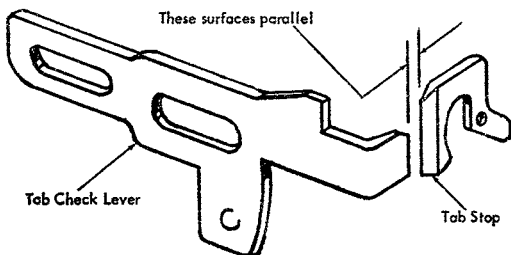

Figure 22. Tab Rack Adjustment, 4C
**C. PARALLEL TO TAB CHECK LEVER.** Position the tab rack about its axis so that the front face of a set tab stop is parallel to the tip of the tab-check lever (Figure 22).